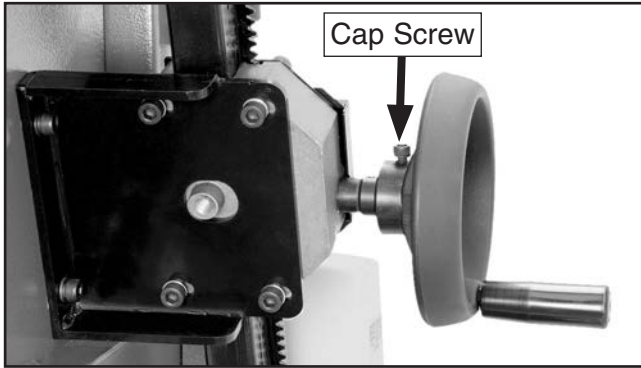

Figure 27. Table tilt handwheel installed.
- Secure the table tilt handwheel onto the flat part of the handwheel shaft with the included cap screw (see **Figure 27**).